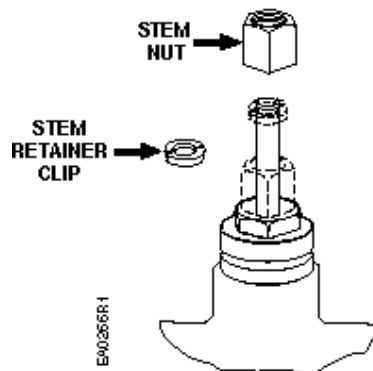

Figure 15. Stem Nut and Stem Retainer Clip.
6. Remove and retain the stem retainer clip and stem nut from the valve stem. See *Figure 15*.
1. Place the stem nut over the valve stem and attach the stem retainer clip. See *Figure 15*.